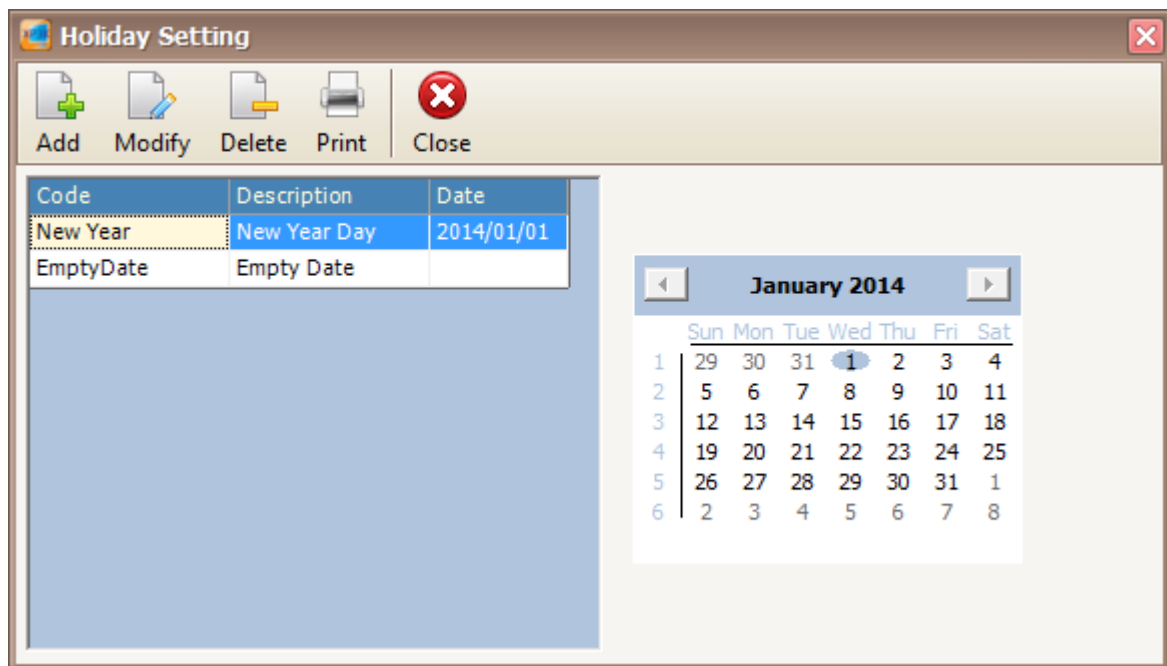

Figure 175 - Holiday Setting
2. The following window will be shown (Refer **Figure 175**).